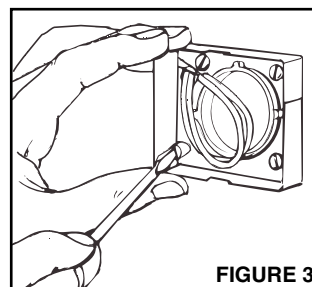

FIGURE 3
3. **Refer to Figure 3.** For some dry wall or panel construction, the plaster frame will extend beyond the finished wall. In this case, remove plaster frame from mounting bracket by removing mounting screws.
3. **Voir Figure 3.** Avec certaines cloisons construites en panneaux ou en pierres sèches, le cadre de plâtre du support de fixation en enlevant les vis de fixation.